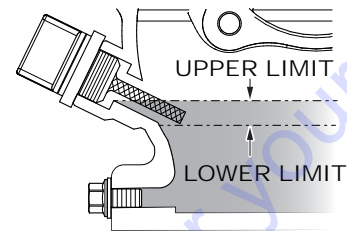

Figure 13. Engine Oil Dipstick (Oil Level)
4. If the oil level is low (Figure 13), fill to the edge of the oil filler hole with the recommended oil type (Table 6). Reference Table 3 for engine oil capacity.